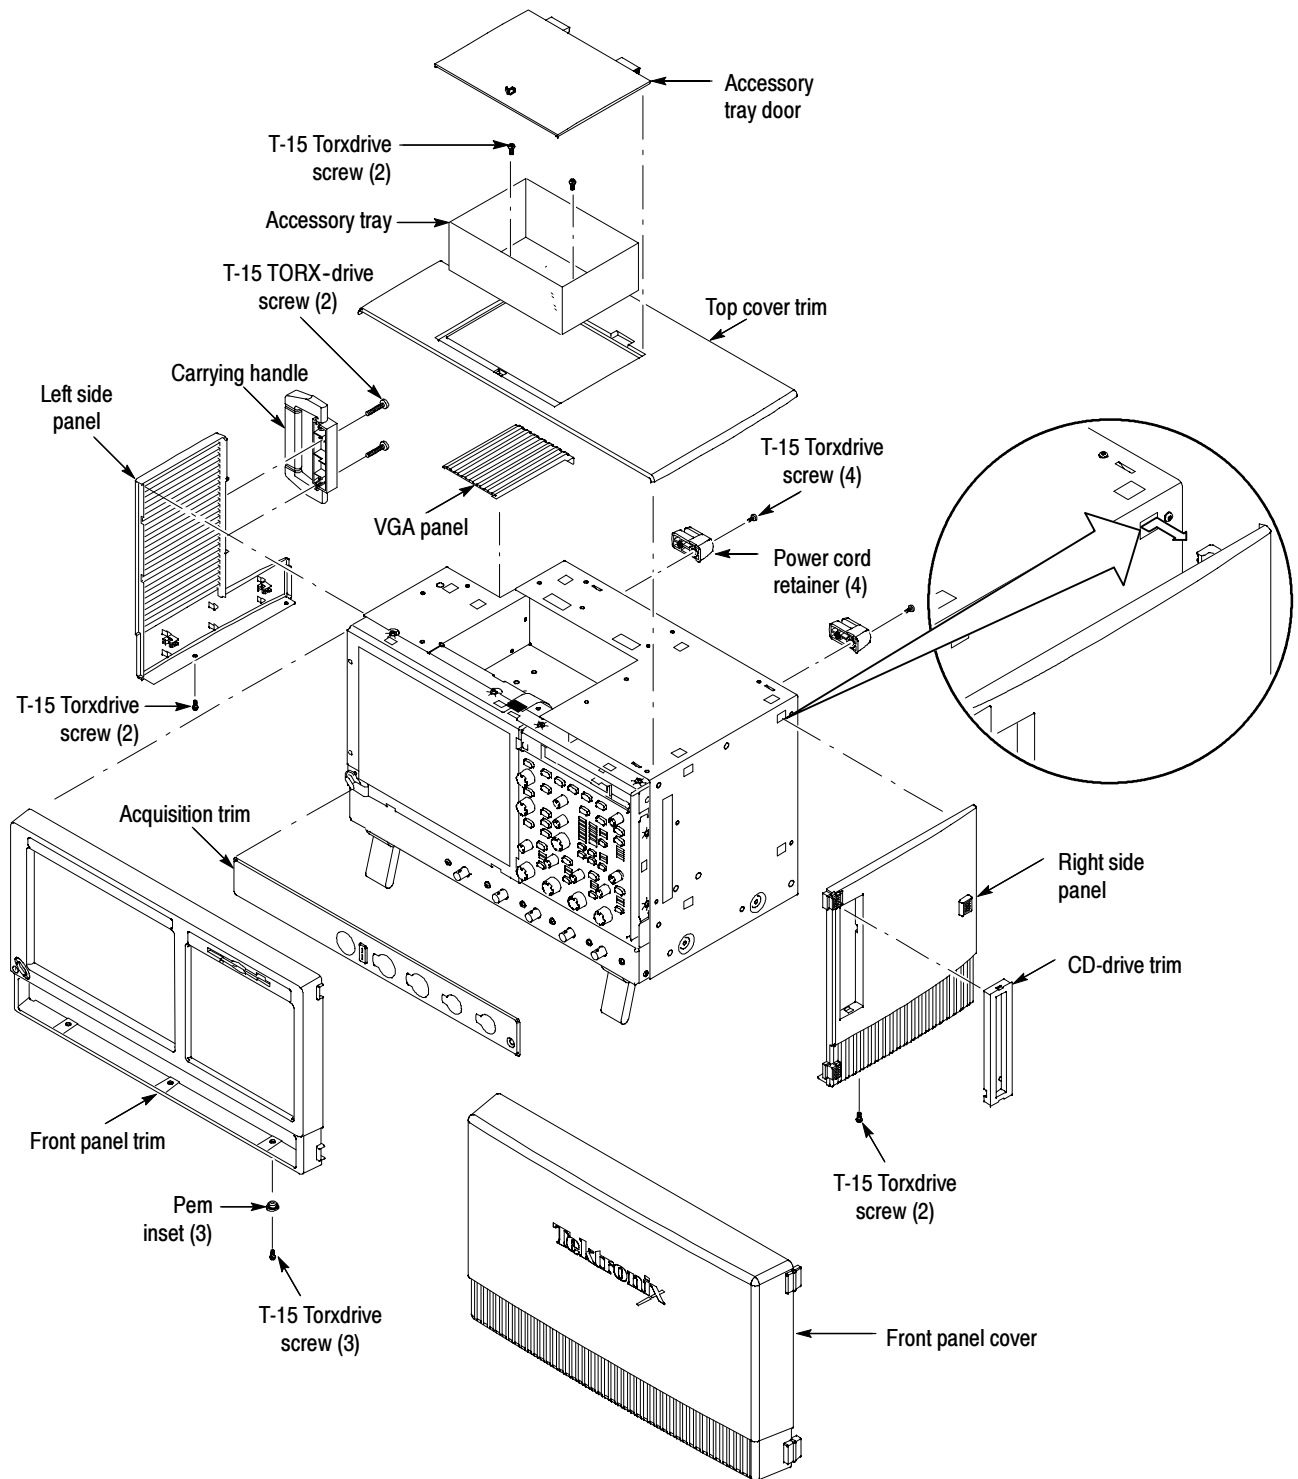

Figure 4: Trim removal
3. *Remove feet and the top cover:* Use Figure 4, on page 9 as a guide.
4. *Remove the right side panel:* Use Figure 4, on page 9 as a guide. Remove the CD Drive trim by inserting a flat blade screwdriver in the bottom slot of the CD trim and gently prying the trim piece out of the side panel. Pull the trim up and out from the oscilloscope.
5. *Remove the carrying handle and the left side panel:* Use Figure 4, on page 9 as a guide. Remove the two T-15 TORX-drive screws that secure the handle to the oscilloscope. Remove the handle from the oscilloscope.
8. *Remove the VGA panel:* Remove the VGA panel trim by gently pulling the trim up and out from the oscilloscope. Refer to Figure 4, on page 9 as a guide.
- d. Reinstall the appropriate trim and carrying handle. Perform the procedures in reverse order steps 4 through 9, on pages 7 through 8. See Figure 4, on page 9, for trim locations.